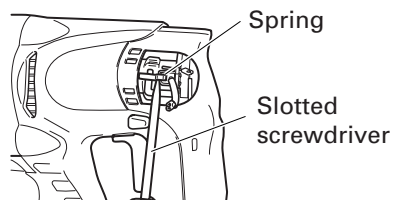

Fig. 24
- (3) Pull the springs forward with a slotted screwdriver, then remove the carbon brushes. (Fig. 24)
- (4) Reverse these procedures to install the brushes.